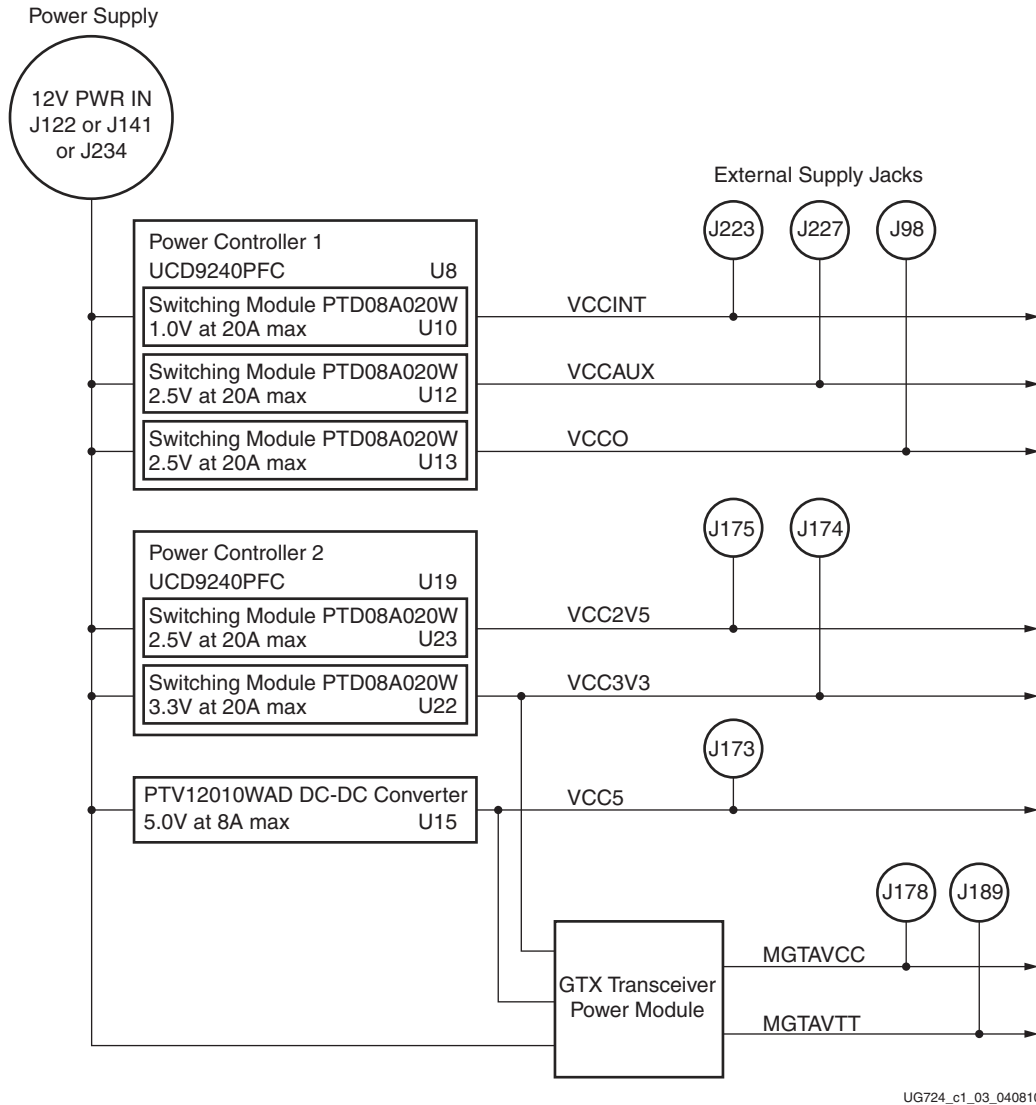

Figure 1-3: ML623 Board Power Supply Block Diagram
Figure 1-3 shows the onboard power supply architecture.
**Note:** Power regulation jumpers are not shown in Figure 1-3.